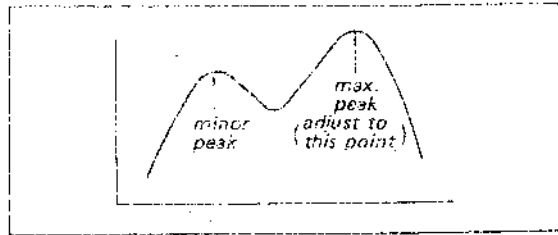

Fig. 4-5. Output response of azimuth adjustment
**Note:** If the maximum output points of both channel's do not coincide, readjust the adjusting screw for minimum difference between left- and right-channel output. If the head azimuth is far out of alignment, minor peaks may be observed before maximum peak as shown in Fig. 4-5. The proper setting is the higher of the two peaks.